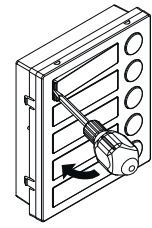

Fig. 6
- Move the screwdriver to the left as shown in **Fig. 6** to extract the card name holder;